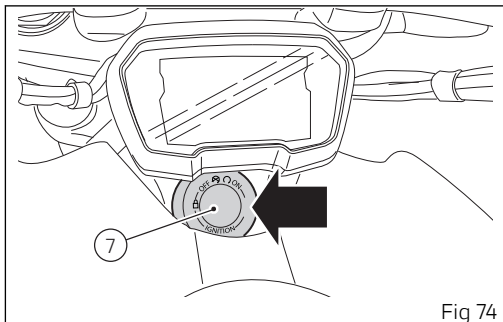
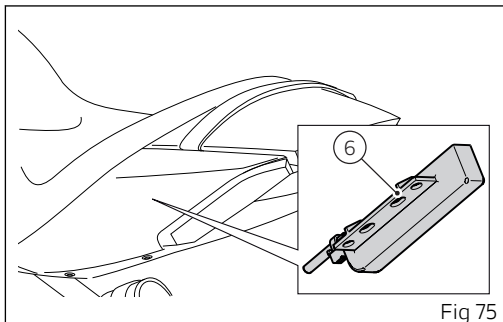

Fig 74
Fig 75
(Fig 74) indicates the position of the Hands Free block (7) and (Fig 75) indicates the position of the antenna (6).